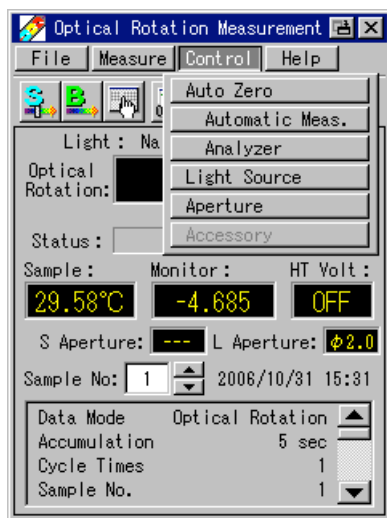
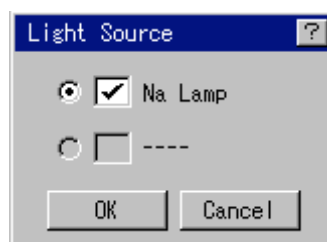

Figure 3.11 Control drop-down menu
Figure 3.12 Light Source window
(1) Press the <Control> button in any measurement window. When the window shown in Fig. 3.11 is displayed, press the <Light Source> button. The window shown in Fig. 3.12 is displayed.